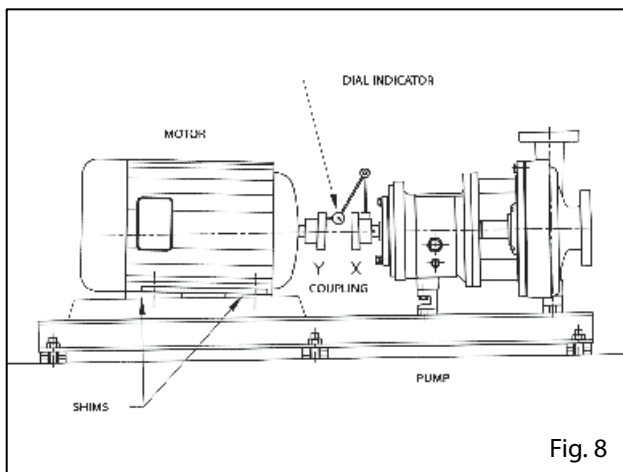

Fig. 8
- ∇ Vertical alignment: Consists of installing a dial indicator (see Figure 8) in the top half of the coupling "X" leaving it fixed, then coupling "Y" is halfway rotated. If reading exceed 0.002" (0.05 mm), this means that the motor is offset from the top down, install shims at the motor feet to correct the readings.